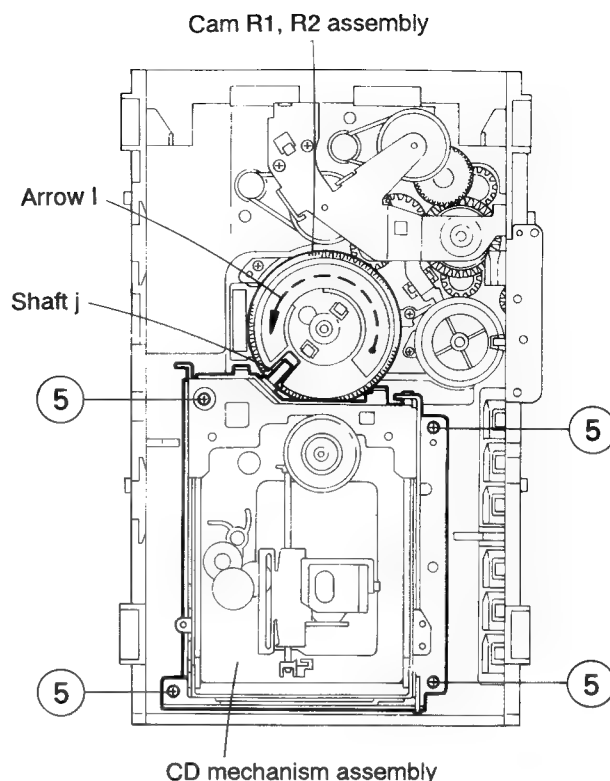

Fig. 5-39
■ Removing the CD mechanism assembly (See Fig. 5-39)
1. While turning the cams R1 and R2 assembly in the arrow direction (I), align the shaft (J) of the CD mechanism assembly to the position shown in Fig. 5-39.
2. Remove the four screws (5) retaining the CD mechanism assembly (See Fig. 5-39).